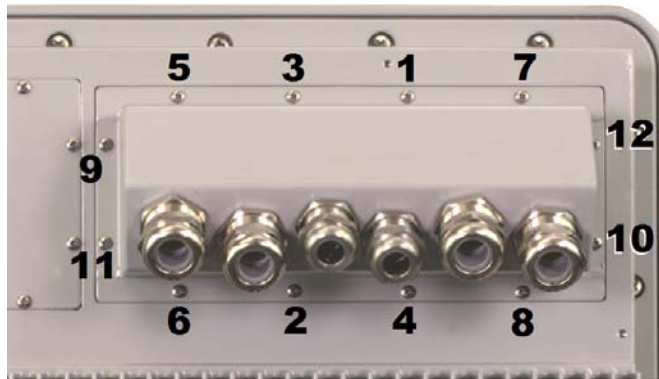

Figure 5.3 Junction Box Incremental Screw Tightening Order
1. Loosen the twelve (12) captive Phillips-head screws securing the junction box to the housing, as shown in Figure 5.3.
2. Carefully remove the junction box from the housing. Make sure not to strain the cables connecting the two (2) USB connectors to the USB ports.
- Place the junction box on the housing and tighten the captive screws to 0.8 Nm (7 in.-lb.) in an inside-to-outside crisscross pattern using the incremental order shown in Figure 5.3 to ensure the plate seals correctly.